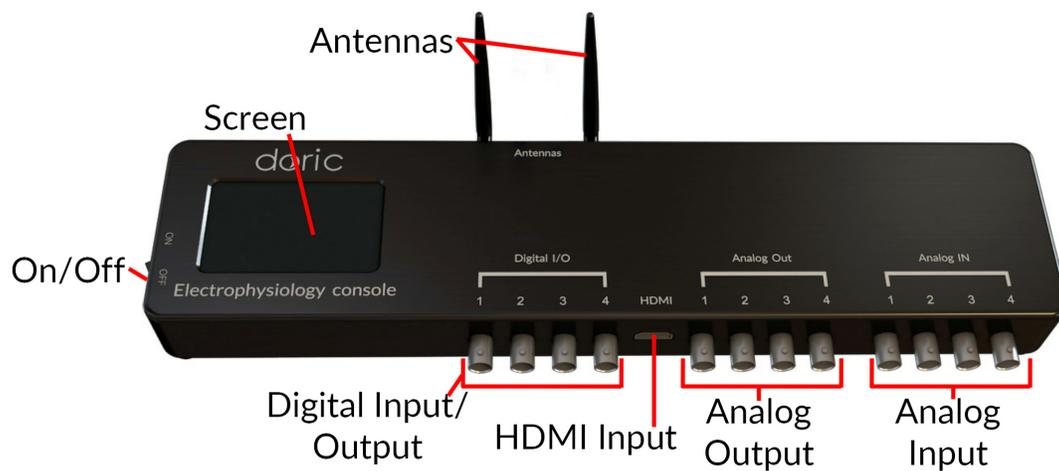

Figure 1.4: *Electrophysiology Console, Front*
The *Electrophysiology Console* (Fig. 1.4) allows control of the different elements, as well as reception and transmission of information from the control computer.
- The **ON/OFF** (Fig. 1.4) switch activates the console.
- The **LCD Screen** (Fig. 1.4) shows the status of the system's channels.
- The **DIGITAL I/O** (Fig. 1.4) ports control, send and receive 0-5 V TTL signals.
- The **HDMI** (Fig. 1.4) port acquires digital signals and digital communications via a custom pinout HDMI connector.
- The **Analog-Out** (Fig. 1.4) ports send a variable  $\pm 5$  V signal.
- The **Analog-In** (Fig. 1.4) ports acquire analog signals coming from various inputs.
- The two **Antennas** (Fig. 1.4) connect to the **SMA Connectors** (Fig. 1.5) and allow wireless connection to the headstages.